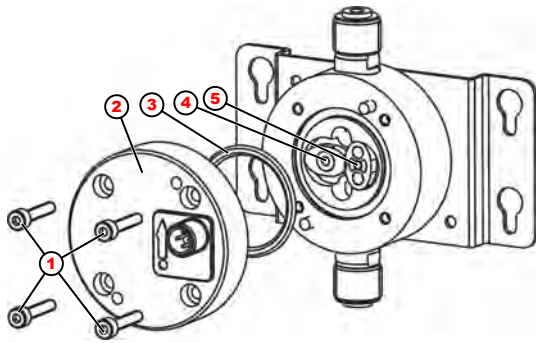

Fig. 5: Maintenance
- 1.** Remove the four bolts (Fig. 5, Pos. 1) on the oval gear meter.
- 2.** Remove the cover (Fig. 5, Pos. 2).
- 3.** Remove the two oval gear wheels (Fig. 5, Pos. 4 + Pos. 5) and clean or replace them.
*It is recommended in all cases that the O-ring seal (Fig. 5, Pos. 3) between the cover and the housing should always be renewed.*